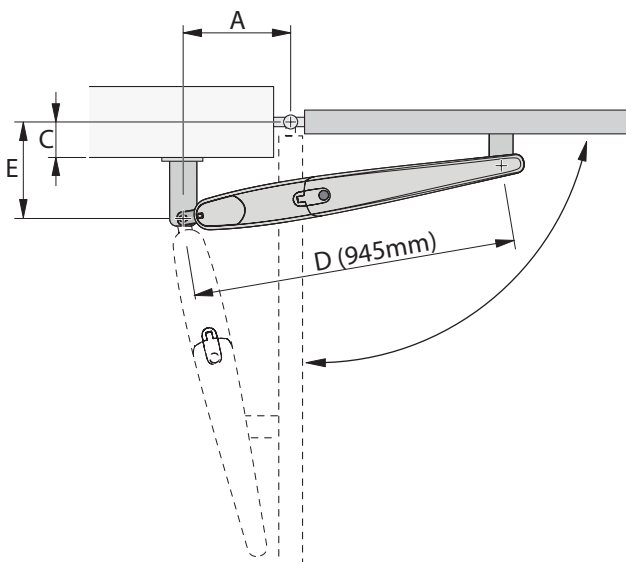

Fig. 2
**01.** Measure value “**E**”, and then trace a straight horizontal line by that value. Select a point in the line, taking into account the desired opening angle, suitable for the column. Trace a straight vertical line starting from the identified point, and obtain value **A**. Before proceeding with the installation, make sure that value **A** allows to fix the rear bracket, otherwise select another point on the chart. Lastly, to fix the bracket move the piston to the limit of the stroke (**see Fig. 2**).
01. For the installation of the front bracket to the gate leaf, refer to distance D (fig. 2).